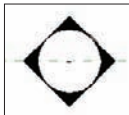

FIGURE 3.84 The revised, less obtrusive elevation markers
5. Zoom back in on the elevation markers. They should look like Figure 3.84.